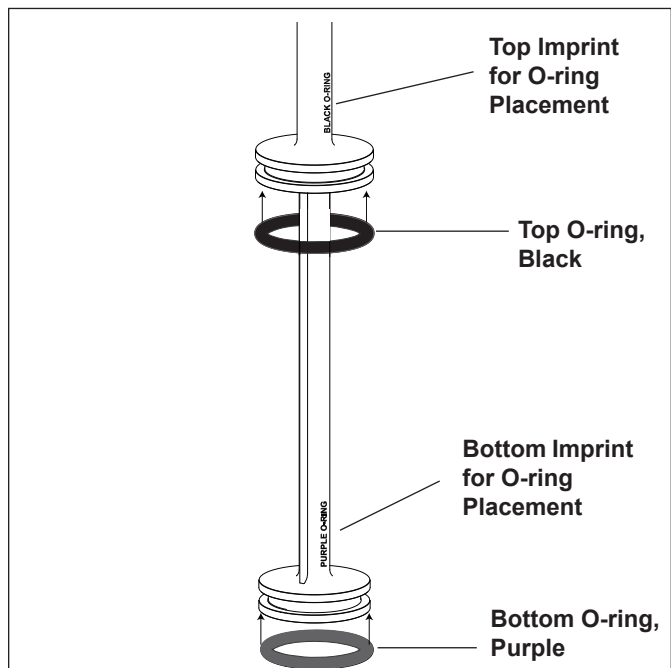

Figure 6. Replace Shaft O-rings - Lower Section of Shaft Shown
2. Place the o-rings in the grooves on the stem of the shaft (see Figure 6). **Ensure that the o-rings are properly seated.**